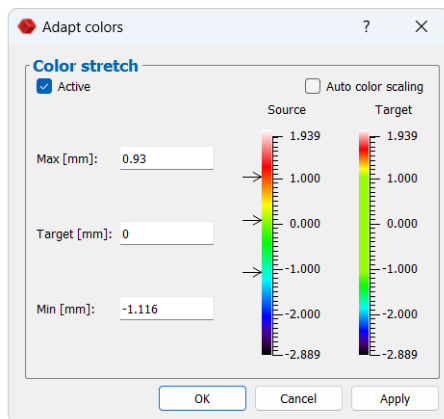

Fig. 3.41: "Adapt colors" dialog box
- **Adapt surface colors...:** You can vary the selected color palette and adapt it to your needs (see Fig. 3.41). The target color value will be stretched between the upper and lower limit. The color values outside the upper and lower limit will be shrunk.